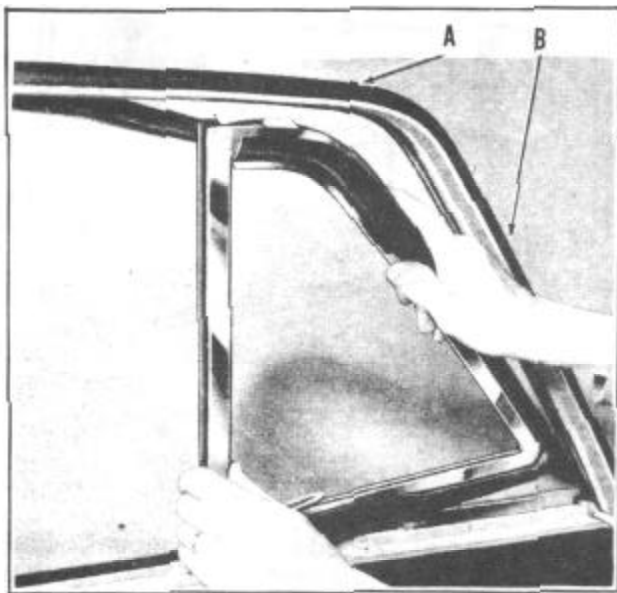

FIGURE 8
3. Remove screw (G), attaching wing frame to door inner panel.
4. Remove screws (A) and (B), Figure 8, attaching the wing frame to the upper door frame.